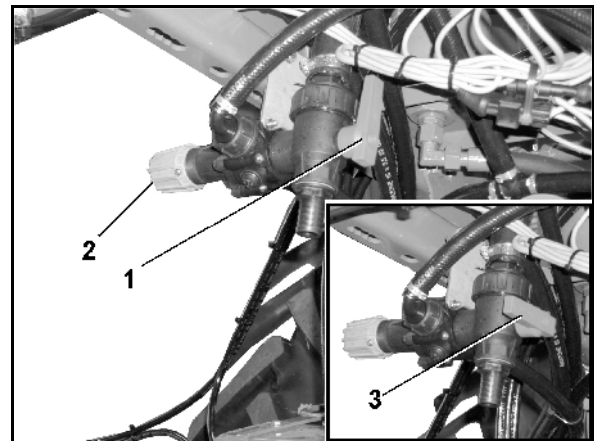

Fig. 86
- the DUS-reversing tap (Fig. 86/1).
- the DUS-pressure relief-valve (Fig. 86/2). The DUS-pressure relief-valve is supplied with a fixed adjustment in the factory and reduces the pressure in the pressure circulation system to 1 bar.
When the DUS reversing tap is in position (Fig. 86/1), the pressure circulation system is switched on.
When the DUS reversing tap is in position (Fig. 86/3), the pressure circulation system is switched off.